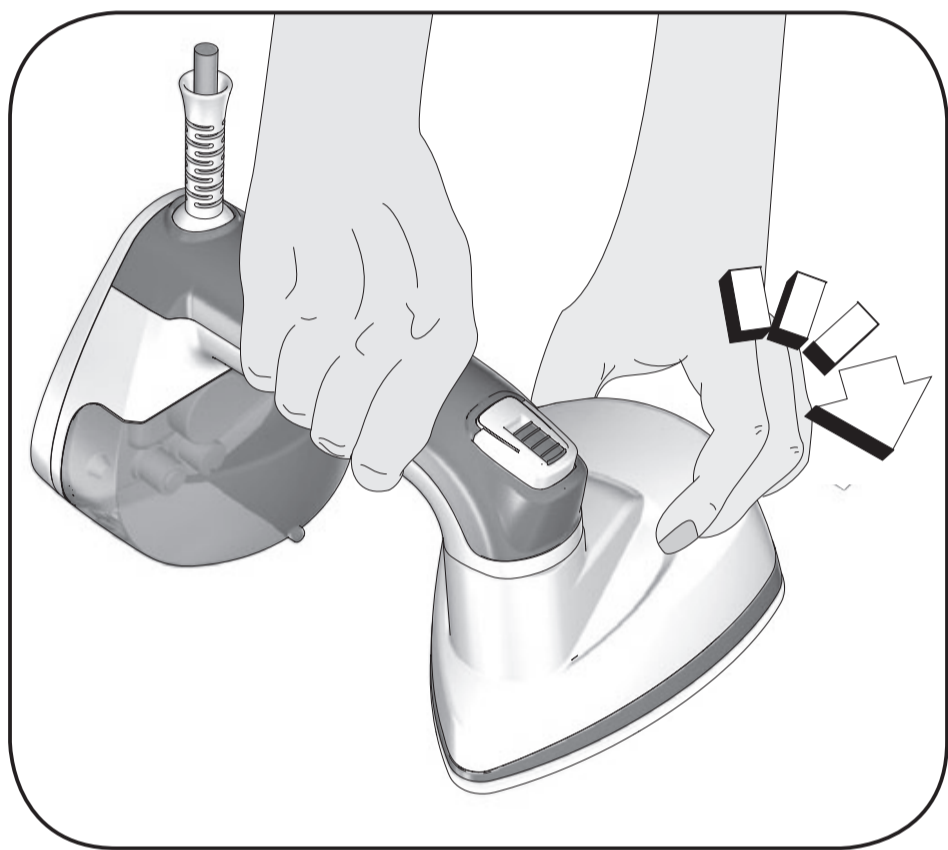

Fig. 2
4. Turn the soleplate using the specific handle. Place the soleplate in Garment mode (Fig. 2).
2. Turn the soleplate using the specific handle. Place the soleplate in Garment mode (Fig. 2).